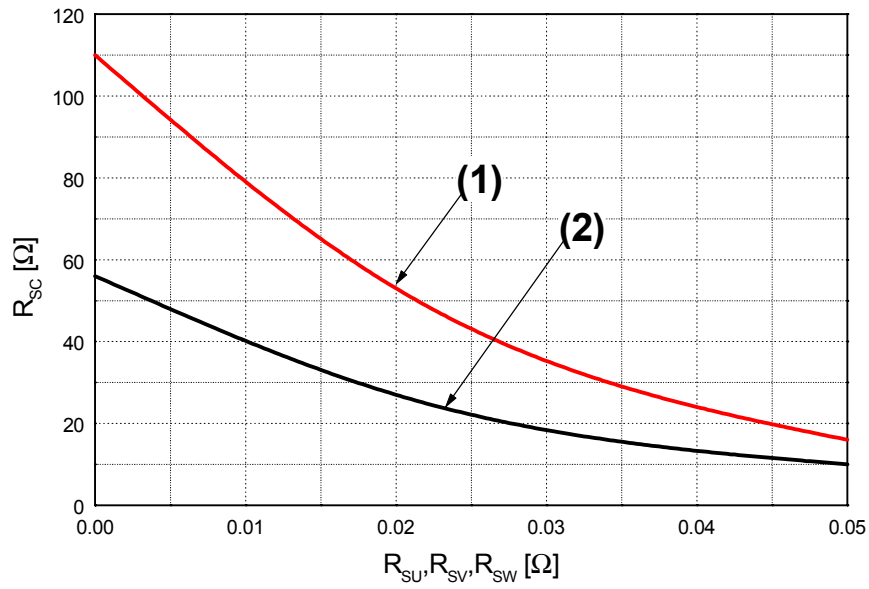

Fig. 6. R_{SC} Variation by change of Shunt Resistors (R_{SU}, R_{SV}, R_{SW}) for Short-Circuit Protection
- Short-circuit current protection is functioning only at the low-sides. It would be recommended that the value of the external sensing resistor (R_{SC}) should be selected around 56 Ω in order to make the SC trip-level of about 45A at the shunt resistors (R_{SU}, R_{SV}, R_{SW}) of 0Ω. For the detailed information about the relationship between the external sensing resistor (R_{SC}) and the shunt resistors (R_{SU}, R_{SV}, R_{SW}), please see Fig. 6.